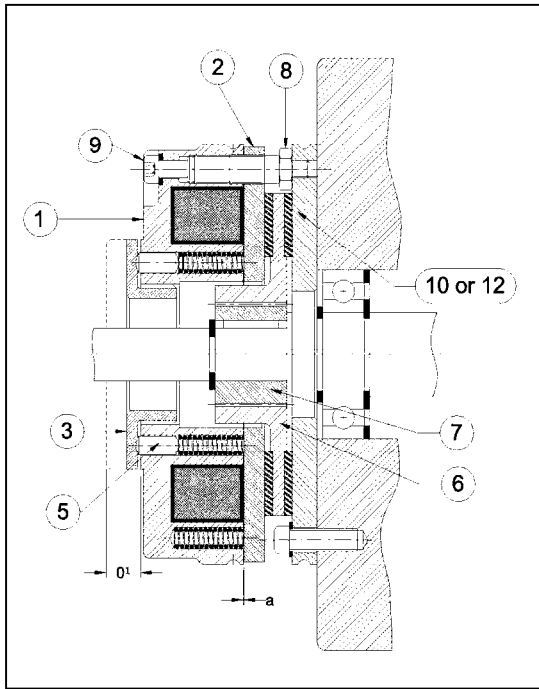

FIGURE 1
The EMCO Dynatorq Electromagnetic Release, Spring Set Brake – Type 14.458, as shown in Figure 1, produces its stopping torque by the use of multiple springs (4) exerting pressure against the armature plate (2). The armature plate in turn, is forced towards the friction plate (8) for mounting flange (10) compressing the dual faced friction rotor (6) between the armature plate and the friction plate (or mounting flange). Figure 1 illustrates the position of the armature plate, friction rotor and friction plate in the set position. The rotor is internally splined slides on the externally hub (7) which is keyed to the shaft.
(NOTE: Air gap dimension is illustrated in Figure 1 denoted by "a").
The brake is supplied from the factory with the nominal torque settings. This torque can be reduced by unscrewing the torque adjustment ring (3) with a spanner within the limit of the "O" dimension given in Table 1 and depicted in Figure 1. The torque adjuster ring has detent action with torque variation per step given in Table 1.
In most applications, the brake needs practically no maintenance. However, after a long period of operation, or if the brake has a high duty cycle, adjustment of the air gap ('a', Figure 1) may be necessary. When the 'a max' value shown in Table 3 is exceeded, adjust the value back to 'a' using the air gap adjustment instructions described in section V, step 9 of the assembly instructions.